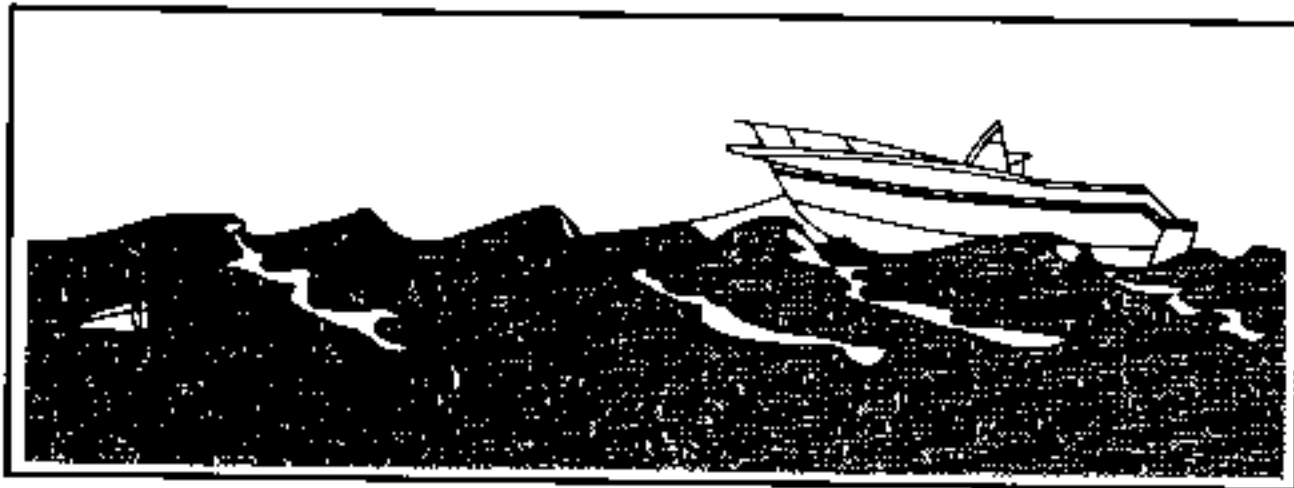

FIGURE 7.4 SEA ANCHOR
- If you lose power, keep the boat headed into the waves by rigging a sea anchor off the bow (**Figure 7.4**). If there is no sea anchor on board, use a canvas bucket or any object that will offer resistance.